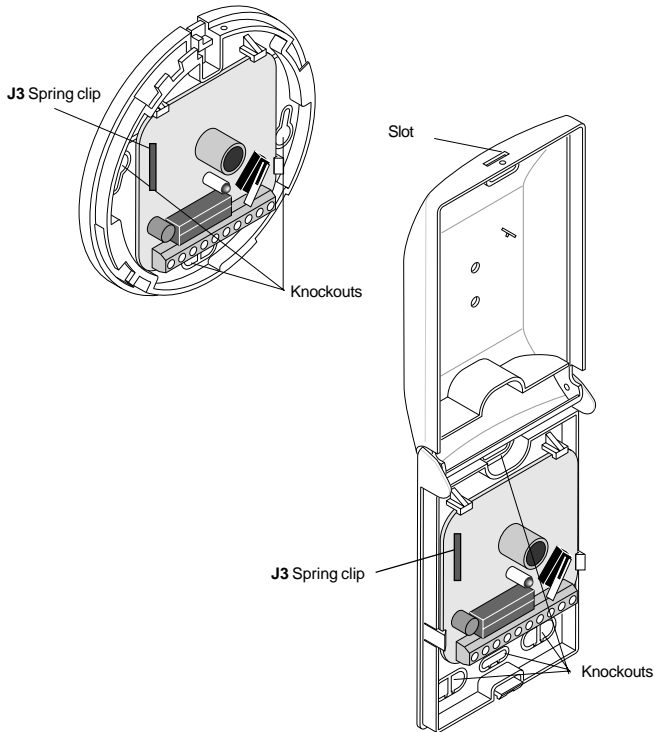

Figure 6 - Detector Knockout Locations
- **Rectangle housing** Insert a flat-blade screw driver into the slot on the bottom of the cover and gently pry up to unlock the cover. Grasp the bottom of the cover and lift up until the cover latches in the open position. See Figure 6.
4. Remove the appropriate wiring and mounting knockout holes from the base. See Figure 6.
The detector provides a spring clip (J3) to set room size. See Figure 6. Use the following table to determine what setting to use for an application.